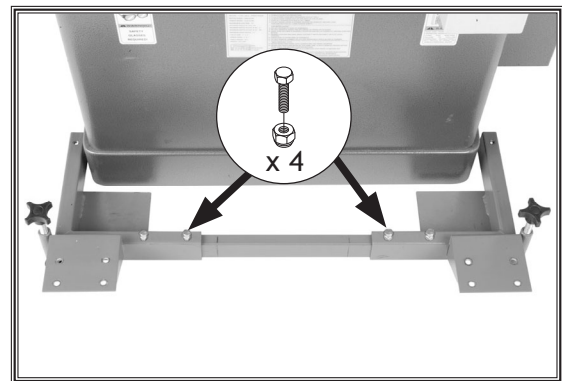

Figure 14. Rail secured to brackets.
6. Secure the rail to the corner brackets with (4) M8-1.25 x 16 hex bolts and 8mm lock nuts, as shown in **Figure 14**.